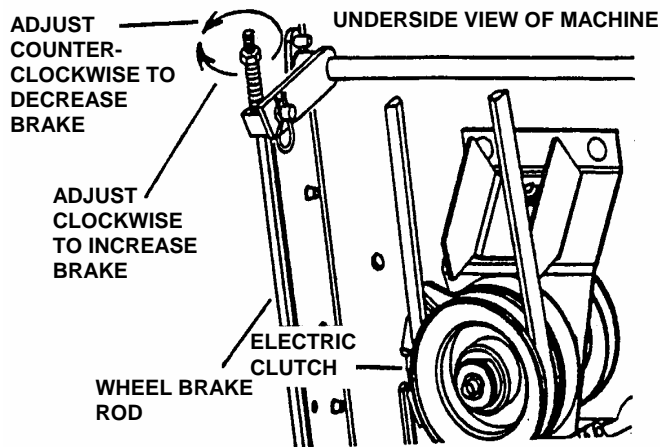

FIGURE 4.14
Adjust the wheel brake if wheels turn when parking brake is engaged. Adjust the wheel brake by turning wheel brake adjusting nut clockwise to increase braking action or counter clockwise to decrease braking action. See Figure 4.14.
7. Inspect condition of blade. See Figure 4.14.